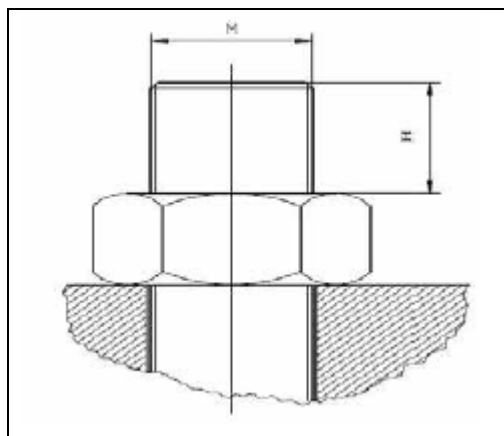

Figure 12 – Bolt Protrusion above Nut
- 5.3.5 Check the effective thread length of bolt protrusion above the nut to ensure enough thread length (see Fig. 12). Normally, the thread length of protrusion above the nut is (minimum) $1 \times M$ (M 100, H = min. 100 mm)